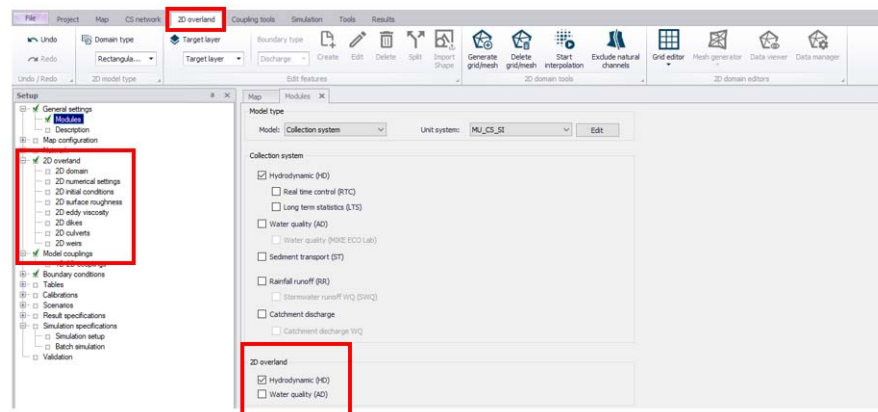

Figure 3.1 Activate the Hydrodynamic (HD) 2D Overland module to access editors for building 2D Overland models in the MIKE+) Setup Tree View.
Activating the Hydrodynamic (HD) module provides access to 2D Overland model editors in the Setup tree view (Figure 3.1).